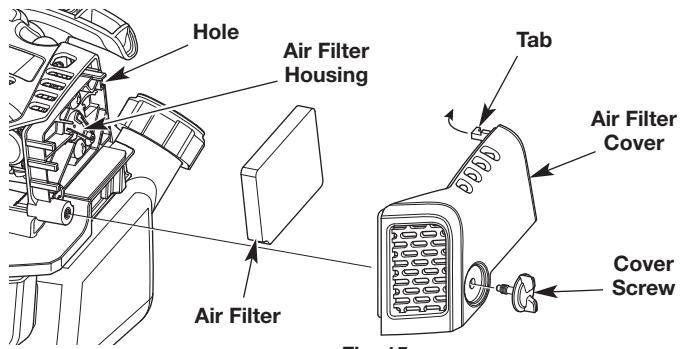

Fig. 15
1. Unscrew the cover screw completely. Swing the air filter cover to the right. Remove the air filter cover from the air filter housing (Fig. 15).
2. Remove the air filter from the air filter housing (Fig. 15).
6. Reinstall the air filter in the air filter housing (Fig. 15).
7. Insert the tab on the air filter cover into the hole on the air filter housing. Swing the air filter cover to the left. Push the air filter cover back onto the air filter housing. Insert the cover screw into the air filter cover. Tighten the cover screw to secure the air filter cover (Fig. 15).